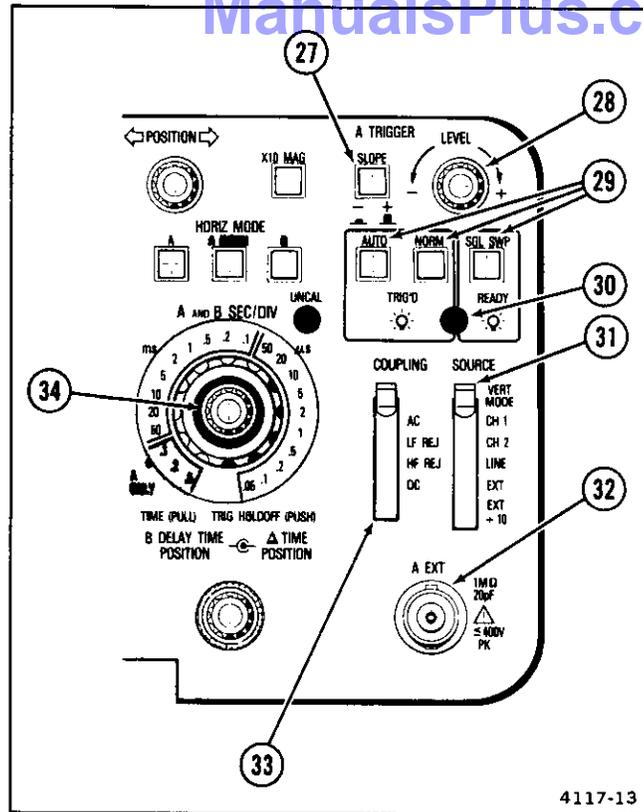

Figure 6. A TRIGGER controls, connector, and indicator.
②5 **X10 MAG Switch**—When pressed in, increases the displayed sweep speed by a factor of 10. Extends fastest sweep speed to 5 ns per division. Push button must be pressed in a second time to release it and regain the X1 sweep speed.
②6 **POSITION Control**—Positions the display horizontally in all modes. Provides both coarse and fine control action. Reverse the direction of rotation to actuate fine positioning feature. When X-Y VERTICAL MODE is selected, the Horizontal POSITION control moves the display horizontally (X-axis).
Refer to Figure 6 for location of items 27 through 34.
②7 **SLOPE Switch**—Selects the slope of the signal that triggers the sweep.